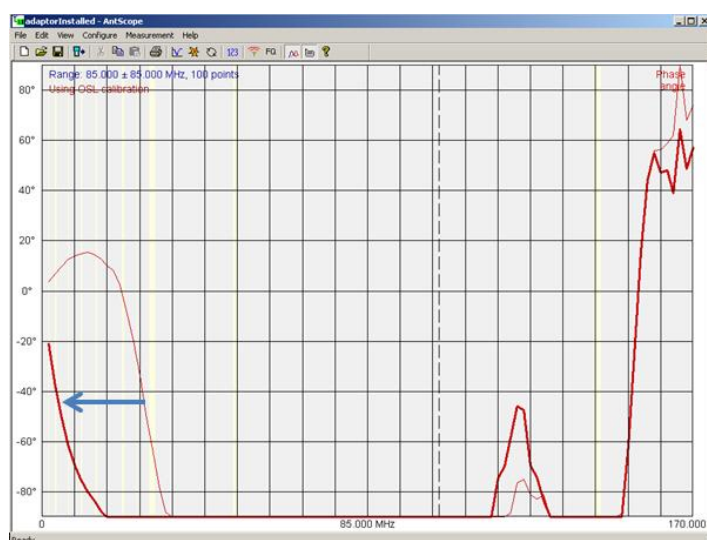

Figure D-13: Data analysis
20. Click the  button to show both sets of data on the graph (the previous scan as well as the latest scan) as shown in Figure D-13.
21. The Bushing Adaptor internal pin is correctly installed if the phase change frequency changes as shown in Figure D-13. Otherwise there is no electrical contact and the installation must be terminated and the original test tap covers replaced.